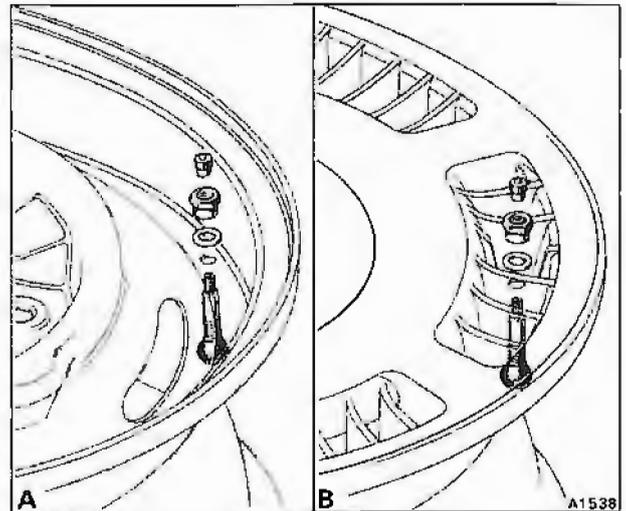

Fig. R3-1 Clamp-in tyre valves
3. Insert the valve into the hole in the wheel rim, then fit the valve securing nut and washer (see fig. R3-1). When fitting a new valve, **do not** use tyre bead lubricant or grease of any kind. Using a 14 mm ($\frac{1}{2}$ A/F) long reach socket, torque tighten the nut to between 2,9 Nm and 3,3 Nm (29,9 kgf cm and 33,4 kgf cm; 26 lbf in and 29 lbf in). **Do not overtighten.**
- Insert the valve into the rim, then fit the valve securing nut and washer (see fig. R3-1). When fitting a new valve, **do not** use tyre bead lubricant or grease of any kind. Using a 14 mm (9/16 A/F) long reach socket, torque tighten the nut to between 2,9 Nm and 3,3 Nm (29,9 kgf cm and 33,4 kgf cm; 26 lbf in and 29 lbf in). **Do not overtighten.**